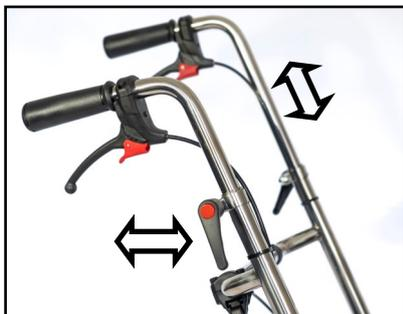

Figure 3
- Release and undo the push handle locking lever slightly on each side and then lift both handles to a comfortable position for handling the wheelbase and seating system (see figure 3).
- Tighten up and secure the lever on each side (see figure 3).